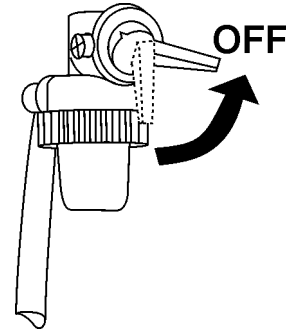

Figure 28. Engine Fuel Valve Lever (OFF Position)
5. Place the engine *fuel valve lever* (Figure 28) to the "OFF" position."